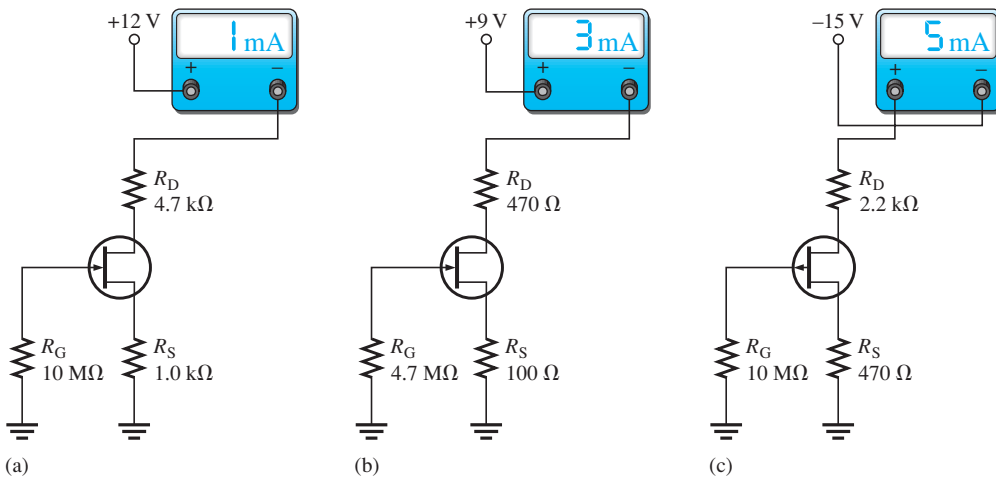

FIGURE 4-78
13. For each circuit in Figure 4-78, determine V_{DS} and V_{GS} .